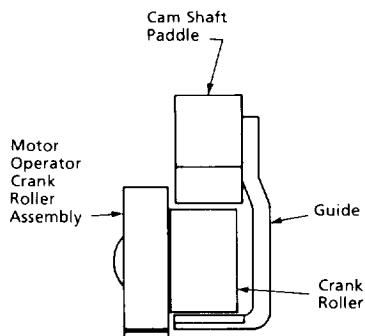
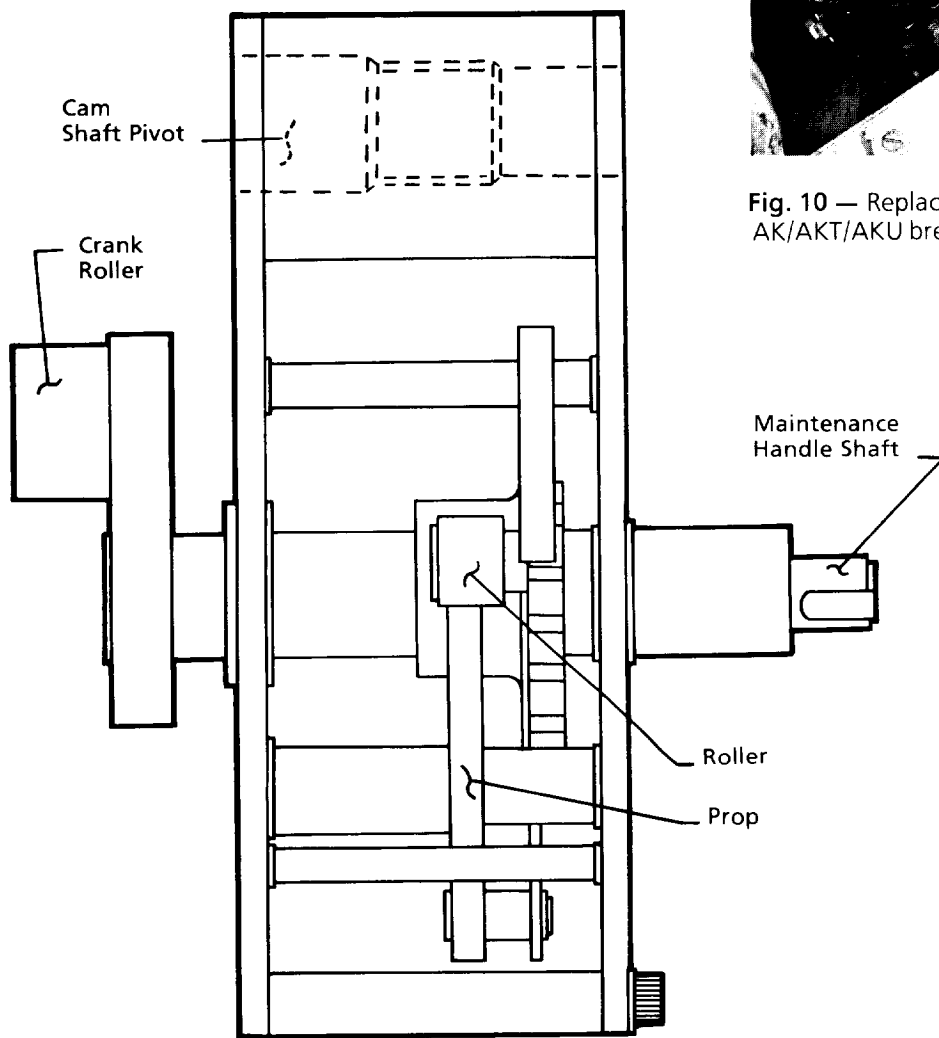
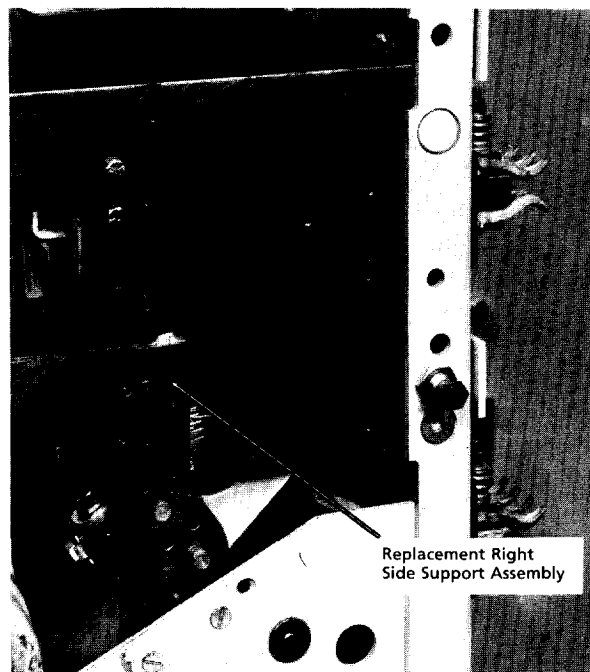

Fig. 8 — Engagement of the motor operator crank roller with the cam shaft paddle.
Fig. 9 — Motor operator unit
Fig. 10 — Replacement side support installed on AK/AKT/AKU breakers - AKD 5 equipment only.
3. Install the motor operator assembly and spring discharge interlock mechanism to the front frame. Refer to Fig. 7. The necessary hardware and spacers are provided. The motor operator crank roller must engage with the guide on the cam shaft paddle, refer to Fig. 8. Also refer to Fig. 10 and 13 in GEK 7303. The cam shaft must engage with the motor operator as it did with the old gear reducer unit, refer to Fig. 9. NOTE: There may be interference between the motor operator frame and the opening spring bracket on some breaker models. If this interference exists, remove the necessary material from the bracket.
6. When all the above conversion steps are completed, the breaker frames can be reassembled. If the breaker being converted is on AK/AKT/AKU 50 used in AKD 5 equipment, replace the right side support with the support assembly provided. Refer to Fig. 10.
7. Remove the safety pin by placing your maintenance handle on the shaft which extends from the motor operator unit and charge the closing spring until the motor operator roller engages with the motor operator prop, refer to Fig. 9. Remove the safety pin. Close the breaker by depressing the spring discharge lever, which removes the prop from the roller. Open the contacts by tripping the breaker.
4. Install the motor operator and spring discharge interlock mechanism to the front frame. Refer to Figure 7. The necessary hardware and spacers are provided. The motor operator crank roller must engage with the guide on the cam shaft paddle, as shown in Figure 8. The cam shaft must engage with the motor operator as it did with the old gear reducer unit, refer to Fig. 9.
7. When all the above conversion steps are completed the breaker frames can be reassembled. If the breaker being converted is on AK/AKT/AKU 50 used in AKD-5 equipment, replace the right side support with the support assembly provided. Refer to Fig. 10.
8. Remove the safety pin by placing your maintenance handle on the shaft which extends from the motor operator unit and charge the closing spring until the motor operator roller engages with the motor operator prop, refer to Figure 9. Remove the safety pin. Close the breaker by depressing the spring discharge lever, which removes the prop from the roller. Open the contacts by tripping the breaker.
The closing signal energizes the new X1 relay through the existing relay and auxiliary switch contacts. The motor is then energized through the X1 and G contacts. The closing spring is charged until it activates the motor cut off unit, opening the G contacts and stopping the motor. The motor cut off unit also closes the F contacts one of which energizes the closing solenoid through the X1 contacts. The closing solenoid through its linkage removes the prop from the roller (see Fig. 9) discharging the closing spring, closing the breaker.